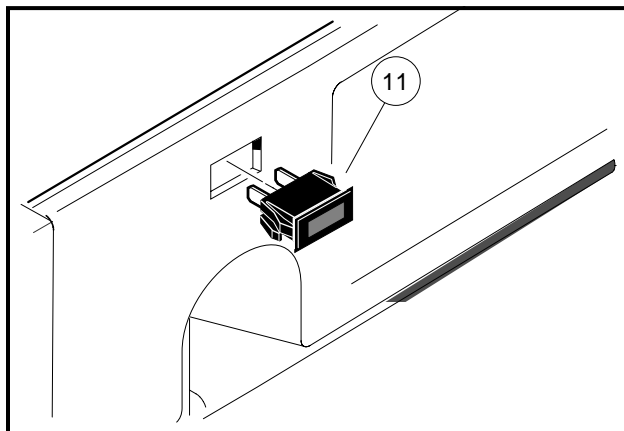

Figure 12-22 Oil Warning Light
3. Disconnect the wires from the oil warning light (11) (**Figure 12-22, Page 12-20**). Do not allow wires to touch.
1. Push a new unit into hole in dash until plastic tabs engage dash (**Figure 12-22, Page 12-20**).